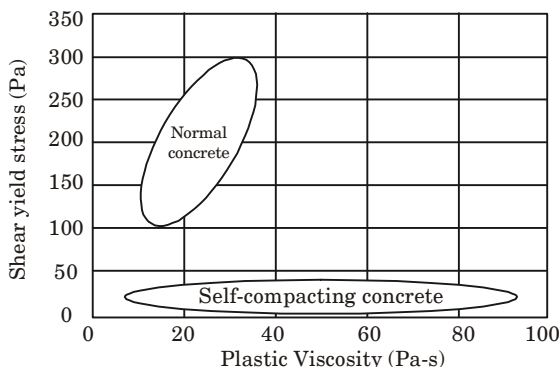

Fig. 3.12.3. Rheological properties of normal and self-compacting concrete.
- Shear yield stress of self-compacting concrete is in the range of 0-50 Pa, whereas for normal concrete it is high in the range of 100-300 Pa as shown in Fig. 3.12.3.